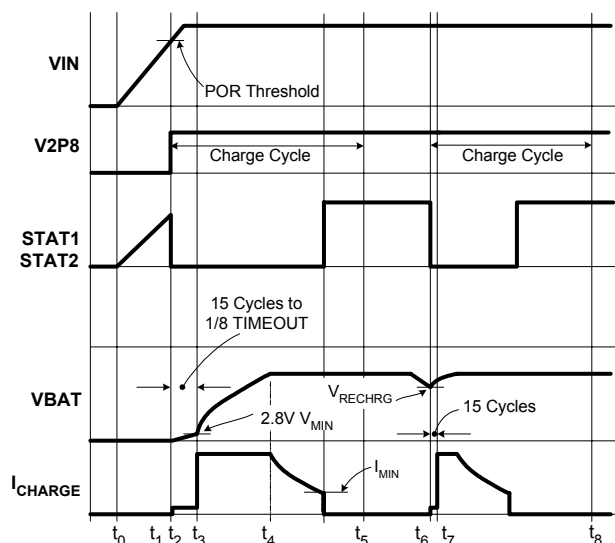

FIGURE 4. OPERATION WAVEFORMS
Figure 4 illustrates the typical signal waveforms for the linear charger from the power-up to a recharge cycle. More detailed Applications Information is given below.
The ISL6292D resets itself as the input voltage rises above the POR rising threshold. The V2P8 pin outputs a 2.8V voltage, the internal oscillator starts to oscillate, the internal timer is reset, and the charger begins to charge the battery. The two indication pins, STAT1 and STAT2, indicate LOW. Figure 4 illustrates the start up of the charger between  $t_0$  to  $t_2$ .
A charge cycle consists of three charge modes: trickle mode, constant current (CC) mode, and constant voltage (CV) mode. The charge cycle always starts with the trickle mode until the battery voltage stays above  $V_{\text{MIN}}$  (2.8V typical) for 15 consecutive cycles of the internal oscillator. If the battery voltage drops below  $V_{\text{MIN}}$  during the 15 cycles, the 15-cycle counter is reset and the charger stays in the trickle mode. The charger moves to the CC mode after verifying the battery voltage. As the battery-pack terminal voltage rises to the final charge voltage  $V_{\text{CH}}$ , the CV mode begins. The terminal voltage is regulated at the constant  $V_{\text{CH}}$  in the CV mode and the charge current is expected to decline. After the charge current drops below  $I_{\text{MIN}}$ , the ISL6292D indicates the end-of-charge (EOC) with the STAT1 or STAT2 pin and terminates. Signals in a charge cycle are illustrated in Figure 4 between points  $t_2$  to  $t_5$ .
After a charge cycle completes, charging is prohibited until the battery voltage drops to a recharge threshold,  $V_{RECHRG}$  (see Electrical Specifications). Then a new charge cycle starts at point  $t_6$  and ends at point  $t_8$ , as shown in Figure 4. The safety timer is reset at  $t_6$ .
The trickle mode charge has a time limit of 1/8 TIMEOUT. If the battery voltage does not reach  $V_{MIN}$  within this limit, a TIMEOUT fault is issued and the charger latches up. The charger stays in trickle mode for at least 15 cycles of the internal oscillator and, at most, 1/8 of TIMEOUT, as shown in Figure 4.
The end-of-charge current  $I_{MIN}$  sets the level at which the charger indicates the end of the charge with the STAT1 and STAT2 pins, as shown in Figure 4. The charger terminates at this moment. The  $I_{MIN}$  is set in two ways, by connecting a resistor between the IMIN pin and ground, or by connecting the IMIN pin to the V2P8 pin. When programming with the resistor, the  $I_{MIN}$  is set in the equation below.